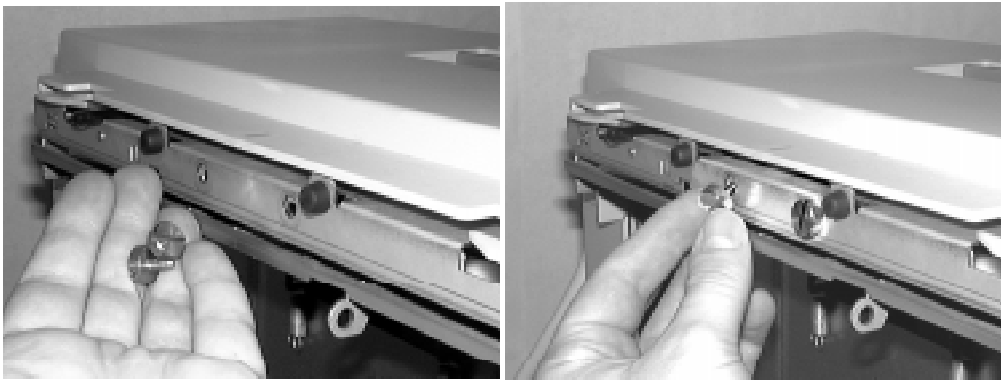

Figure 4-67 Installing Thumbscrews
3. With your other hand, place the thumbscrews removed previously into the holes on the back side of the HCI (shown in Figure 4-67). To get the proper screw engagement, you may need to push the upper roller assembly slightly to the left. If necessary, look through the screw holes to judge if the hole is aligned correctly. Tighten the thumbscrews clockwise until they are snug.